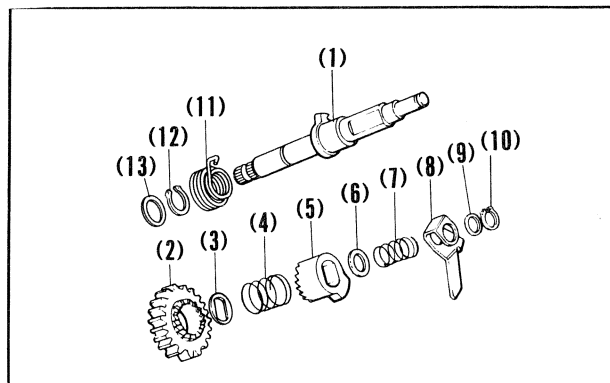

Fig. 4-79
- 2. Assemble the kick starter in the numerical order in the Fig. 4-79.